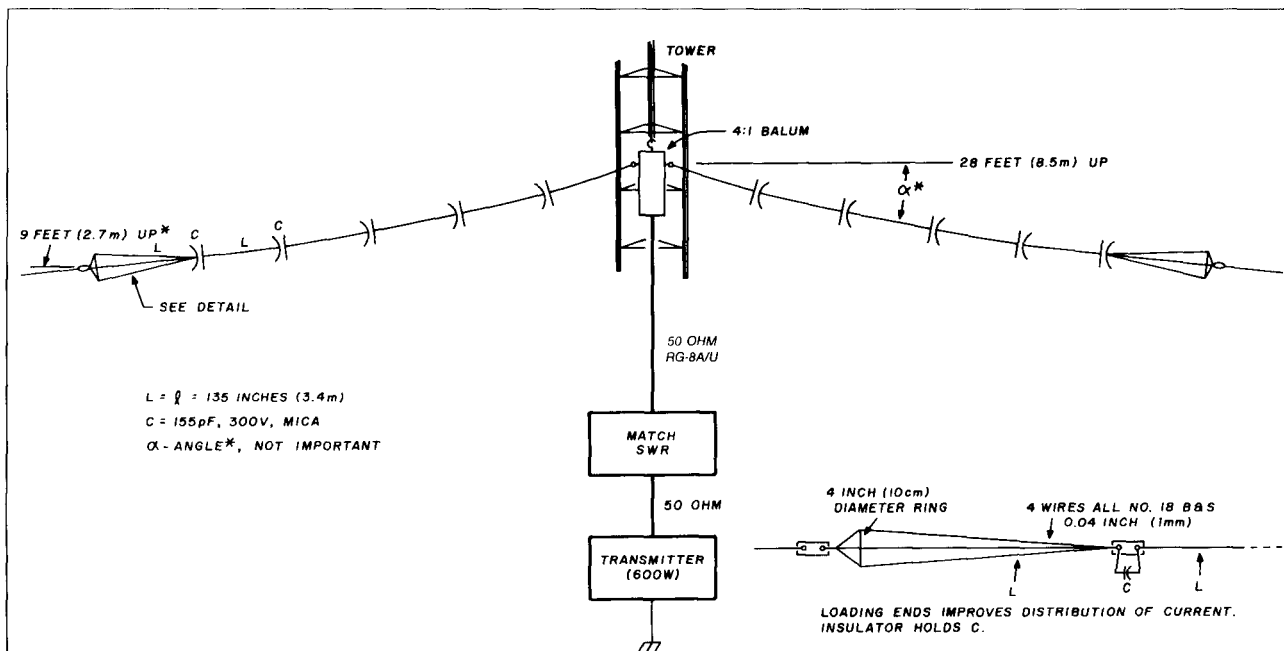
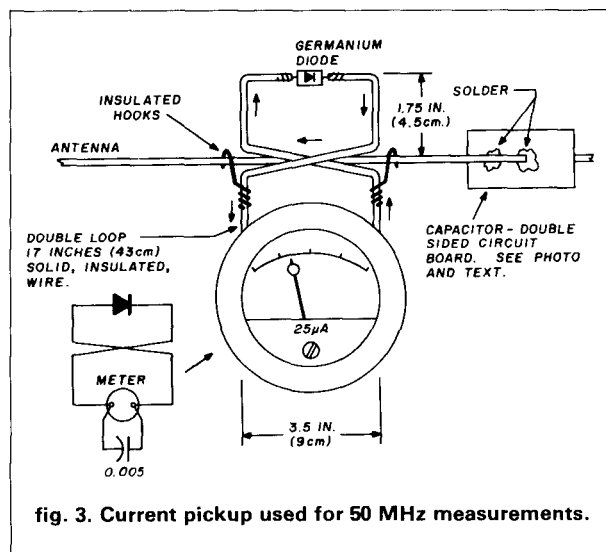
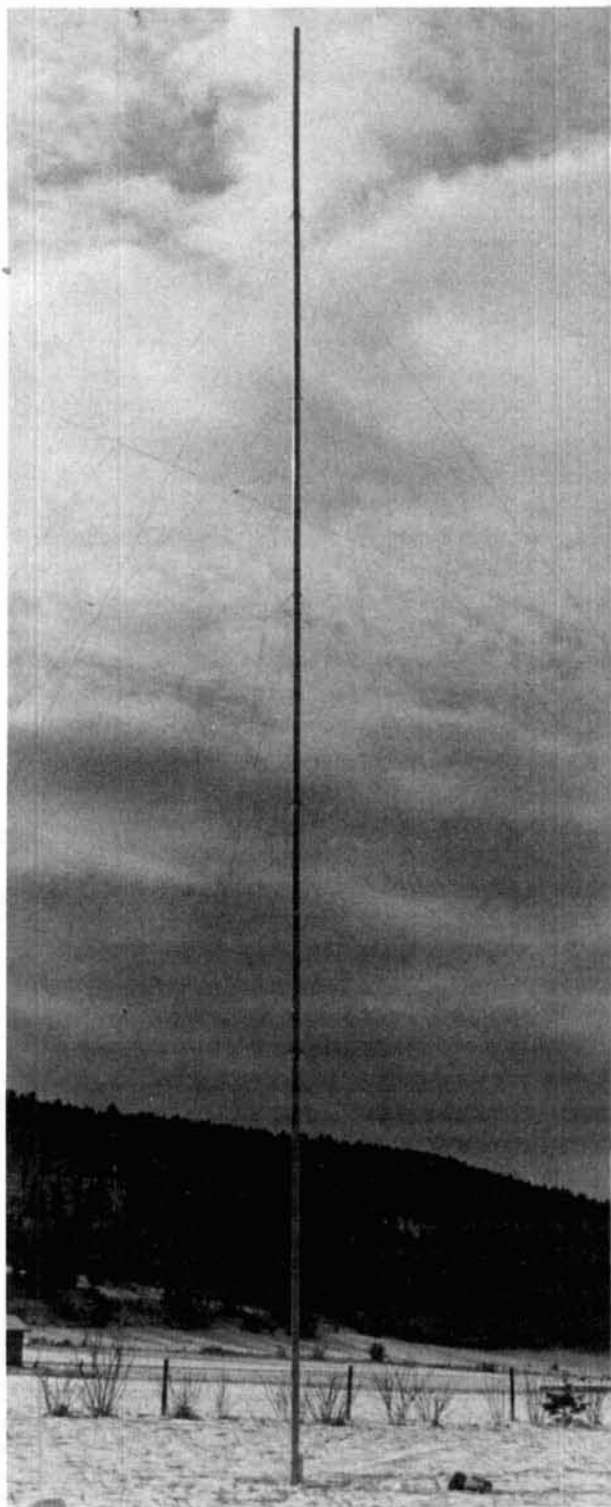

fig. 2. The 7 MHz stretch dipole measuring 132 feet in length can be supported from a tower in an inverted Vee configuration.
fig. 3. Current pickup used for 50 MHz measurements.
fig. 4. Four-inch irrigation pipe provides good mechanical and electrical performance for the 70-foot vertical.
Three different antennas were built. The first was designed for 40-meter operation at two-times stretch with an overall length of 132 feet (40.2 m) — see fig. 2. The second antenna, built to test the distribution of current and voltage, is also a two-times stretch dipole for operation on 6 meters. It was suspended at 6 feet (1.8 m) for convenience in measuring. (Fig. 1C shows the current distribution measured.) A GDO was coupled to a 300 ohm twin-lead, one wavelength feed via a 1:4 miniature balun. The current test meter used is shown in fig. 3. The third antenna was designed for 2-meter operation and features the same two-times stretch. Built using ceramic NPO 5 percent capacitors, this antenna is enclosed in 3/4 inch (2.5 cm) outer diameter thin-wall plastic conduit. End caps support the antenna within. A 3/4-inch "T" fitting at the center holds the third piece of conduit. An end-cap is drilled and terminals supplied for the 300 ohm twin-lead feeder, (see fig. 4).
center of the boards, and again just in from the narrow dimension as shown in **fig. 3**.
**fig. 4. (A)** Matching device transforms 50-ohm coaxial cable to 300-ohm open-wire feeders using a 40-inch (1.2 mm) conductor. Points X and Y are grounded and may be spaced 5 inches (13 cm) apart by bending the lines into inverted U's as illustrated in (B). The capacitor C is not grounded. (C) photo illustrates U-shaped matching device, capacitor, and current probe.
fig. 2. Five separate VSWR plots versus frequency of the 70-foot vertical and matching networks are illustrated with "1" for 40 meters, "2" for 80 meters, and "3" through "5" for the 160-meter band. Notice how flat both the 40 and 80-meter curves are.
Fig. 3 provides the schematic of the networks and control system. Fig. 4 shows the 70-foot vertical from a distance, while fig. 5 is a view of the antenna from below. Fig. 6 shows the control box, fig. 7 the antenna base.